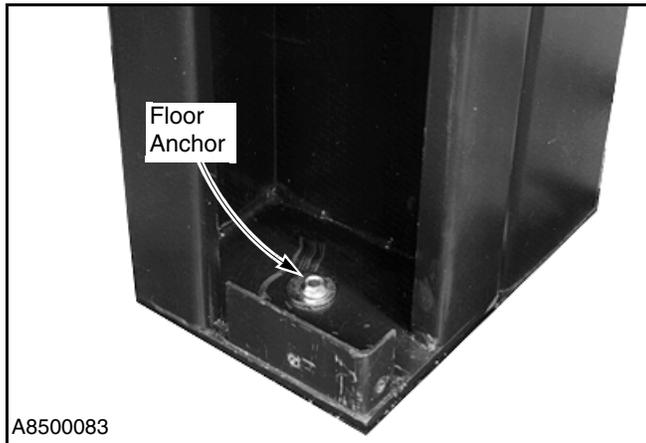
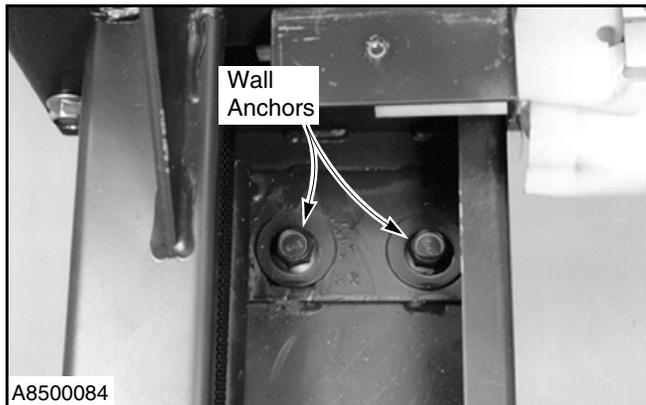

Figure 17
Figure 18
- After the head assembly is secured to both side columns, securely tighten all floor and wall anchors. (See Figure 17 and Figure 18.)